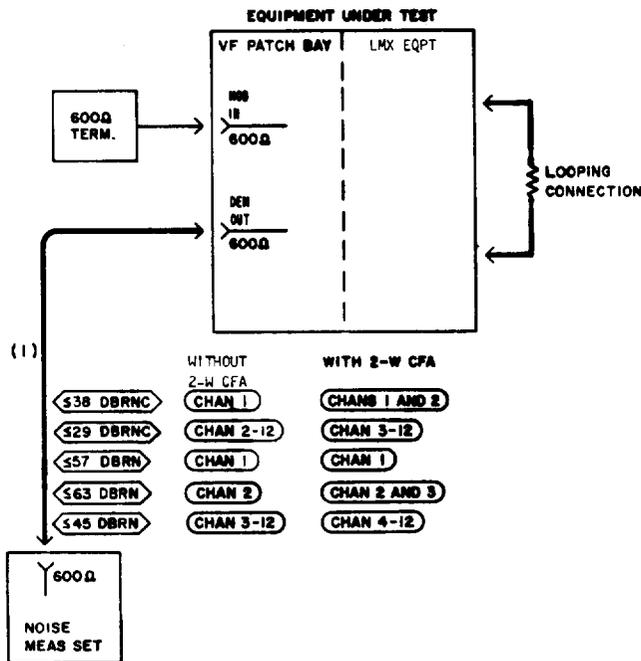

Fig. 9—Patching Diagram—Noise Test
| 11 | Insert a 262B plug (600-ohm termination) in the MOD IN jack for Channel 1 of the channel bank under test (Fig. 9). |
| 12 | Connect the NMS to the DEM OUT jack for the channel under test [patch (1), Fig. 9]. |
| 22 | Remove patch (1), Fig. 9. |